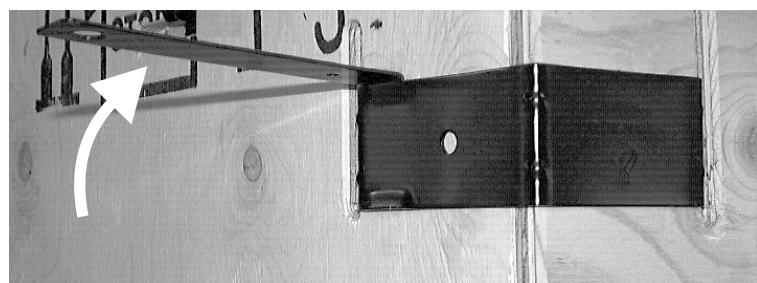

Figure 135: Removing the clips
4. Working from the top downwards, remove the clips from the rigid transport packaging. Push the clip removal tool into the recess on the clip, press against the clip to control movement and lever off (see Figure 135).